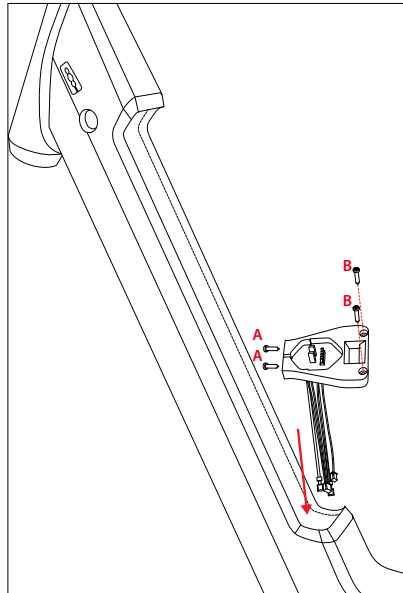

Figure 4.32 Battery socket assembly
1. Install two M3x8 fasteners [A] on the bottom side of the battery socket (Fig. 4.32)
2. Route the wires to the hanger (Fig. 4.32).
3. Mount the battery socket to the frame using two 2.9 x 25 mm self-tapping fasteners [B] (Fig. 4.32). Tighten the fasteners to 1Nm